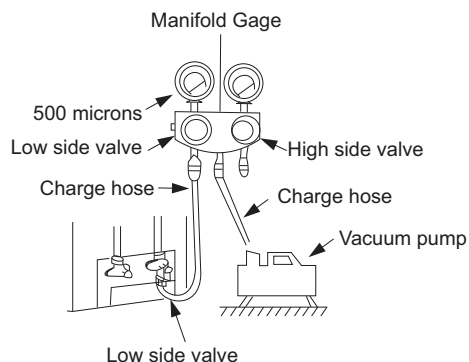

Fig. 13 – Manifold
3. Fully open the low side of manifold gage (see Fig. 13).